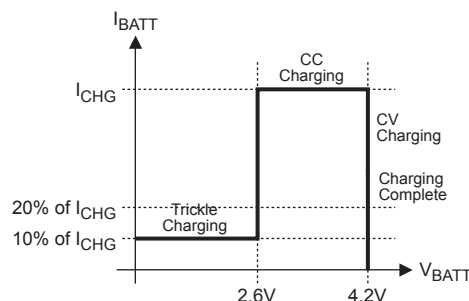

Figure 2—MP2605 Typical Charging Profile
Figure 2 shows the typical charging profile for the MP2605. For a fully depleted battery with a terminal voltage lower than 2.6V, the MP2605 will start with the trickle charge (preconditioning) at 10% of the full charge current based on the value of R_{CHG} . If the charger stays in trickle mode longer than 32768 cycles, the battery fault condition will be indicated by flashing the $\overline{\text{CHG}}$ LED. After the battery voltage reaches 2.6V, the charger begins charging using the programmed charge current (I_{CHG}). This is referred to as Constant Current (CC) mode. Once the battery voltage reaches 4.2V, the charger will operate in the constant voltage (CV) mode until the battery is fully charged. The charge current drops during CV mode, and the battery full indication is set when the charge current is reduced to 20% of the programmed constant current value (I_{CHG}). The charge process is then terminated. Recharge will start after the battery voltage is reduced to 4.0V. After 262144 cycles of continuous charging, if the battery still has not reached 20% of the I_{CHG} condition, the on-chip timer will terminate the charger to prevent charging the dead battery excessively and the fault condition will be flagged by flashing the $\overline{\text{CHG}}$ LED.